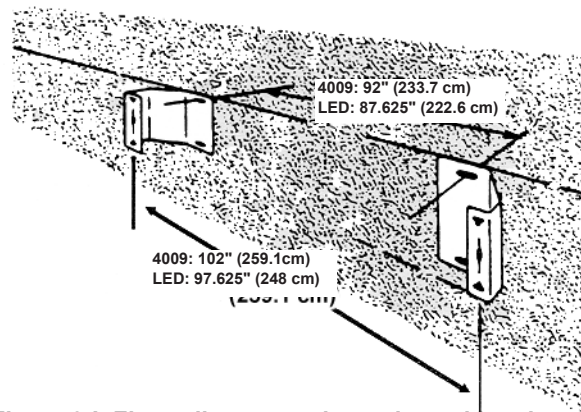

Figure 3-I: Flat wall mount using universal brackets
- 2) Carefully mark the locations of the holes in the selected mounting brackets. Check the locations of all mounting brackets and drill-holes. Note that the mounting holes for Universal brackets on a flat wall mount are 92 inches (233.7 cm) apart for 4009 boards and 87.625 inches (222.6 cm) apart for LED boards. Refer to Figure 3-H to check corner-mount horizontal spacing between brackets. Refer to Figure 3-I to check flat wall mount horizontal spacing between brackets.
- 3) When you are sure all marks are accurate, drill mounting holes 2.5 inches (6.4 cm) deep, install mounting hardware in holes, and mount brackets on hardware as shown in Figure 3-G. Make sure all hardware is secured to 10 in/lbs torque. Do not overtighten concrete inserts.